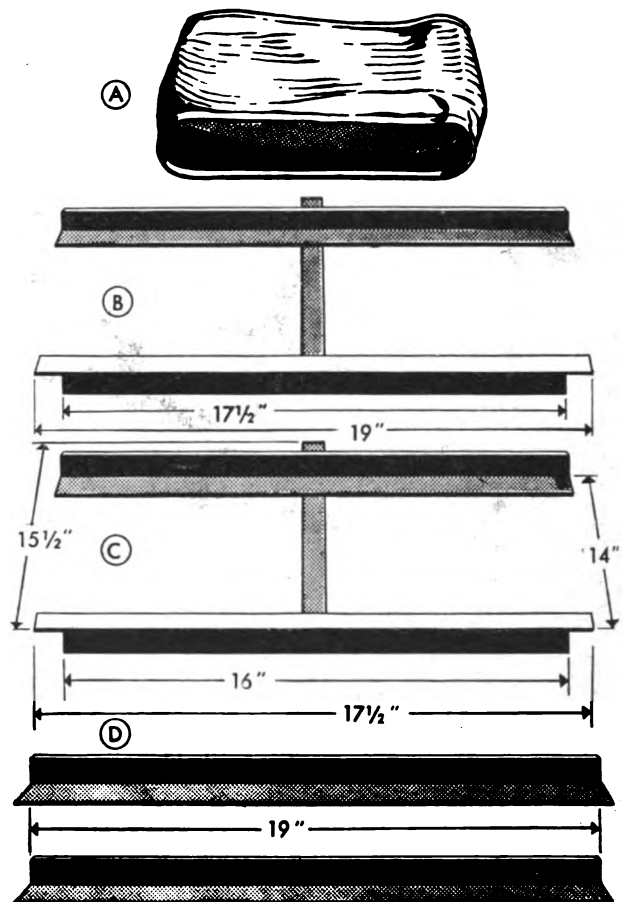

Figure 39. Parts necessary for adapting range, field, M1937, for pastry baking.
(1) For the bottom shelf, cut two angle irons, 19 inches long (D, fig. 39). Place these on the middle burner rails in the cabinet and lay on them any large flattened can (A, fig. 39). This can serves to distribute the heat evenly and will be found more satisfactory than a single piece of metal.
(2) For the center shelf, construct an angle iron pan rest in the shape of an H (B, fig. 39),
(3) For the top shelf, construct an H rest similar to that described in (b) above. (See C, fig. 39.) Make the rest $17\frac{1}{2}$ inches wide and cut a notch $\frac{3}{4}$ of an inch from each end of the front iron. Fit the rest onto the rails in the cabinet which are normally used for the roasting pan.